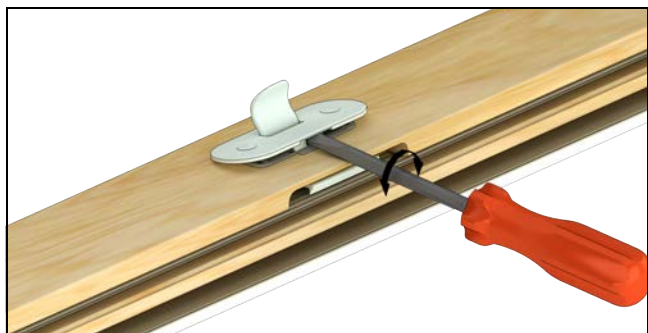

Figure 98
2. Remove escutcheon by placing a flat screwdriver in notch at the bottom between the escutcheon and plastic housing. Use a turning motion to release the escutcheon. See Figure 98.